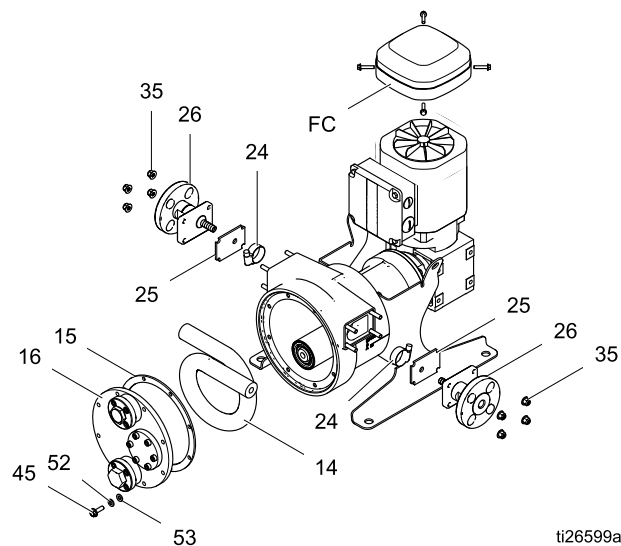

Figure 2 Remove or Install the Hose
2. See Figure 2, page 10. Use a wrench to remove the bolts (45) and washers (52, 53, if present) that hold the front cover (16), removing the top screw and washer (if present) last. Take the cover off the pump. If the cover is stuck, gently break the gasket seal with a flat-headed screwdriver between the cover and the housing.